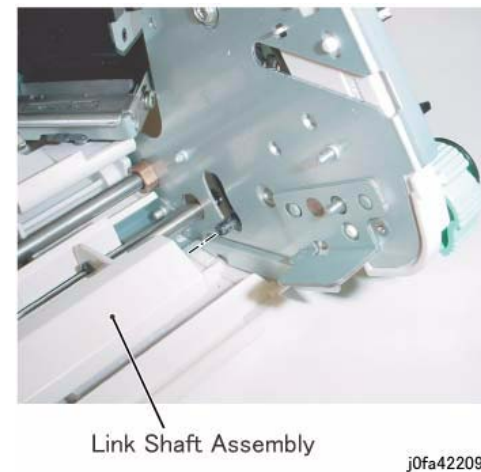

Figure 9 Installing the Paddle Link Assembly
2. Install the Paddle Link Assembly as shown in Figure 9.